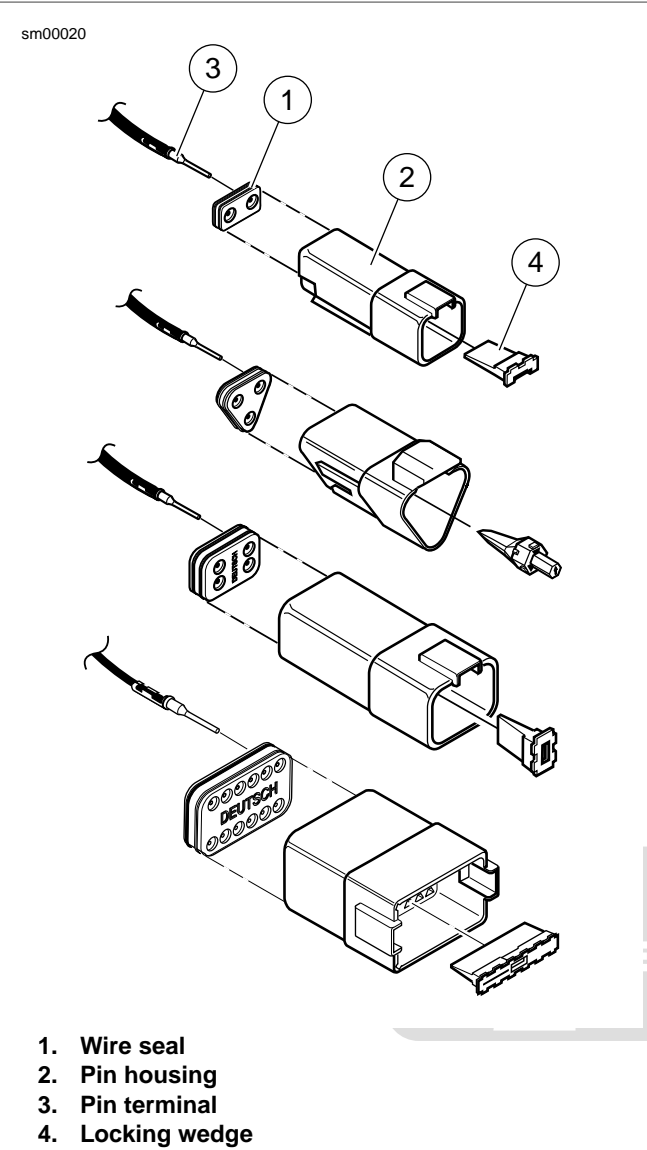

Figure A-34. Deutsch DT Sealed Connector: 2, 3, 4 and 12-Place Pin Housings
1. See Figure A-34. Fit wire seal (1) into back of pin housing (2).
2. Grasp wire lead approximately 1.0 in (25.4 mm) behind the pin terminal (3). Gently push pin through holes in wire seal into its respective numbered chamber until it "clicks" in place.